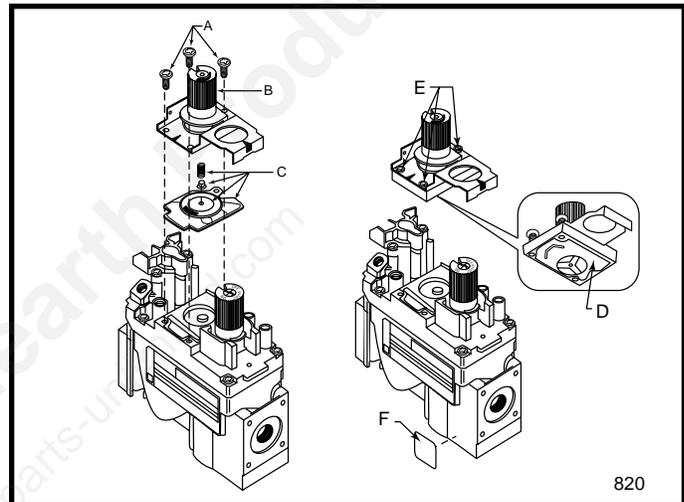

Fig. 49 Nova SIT820 Gas Valve.
9. SIT 820 NOVA Gas Control Valve (Fig. 49)
- a. Using a Torx T20 or slotted screwdriver, remove and save the three pressure regulator mounting screws (A), pressure regulator tower (B) and diaphragm (C).
- b. Ensure the rubber gasket (D) is properly positioned and install the new HI/LO pressure regulator to the valve using the new screws (E) supplied with the kit. Tighten screws securely. (Reference torque - 25 in.LB)
- c. Install the enclosed identification label (F) to the valve body where it can be easily seen.